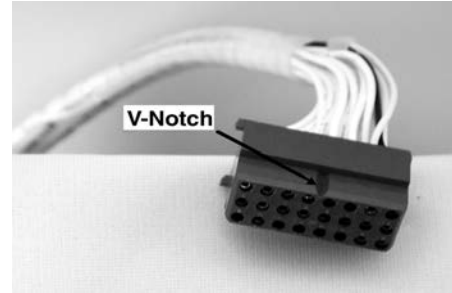

Figure 5 M-2001 Harness Connector
■ **NOTE:** The blue connector is keyed by a "V" notch in the middle to prevent incorrect mating (Figures 5 and 6). Check location of the key before plugging connector into the M-2001.